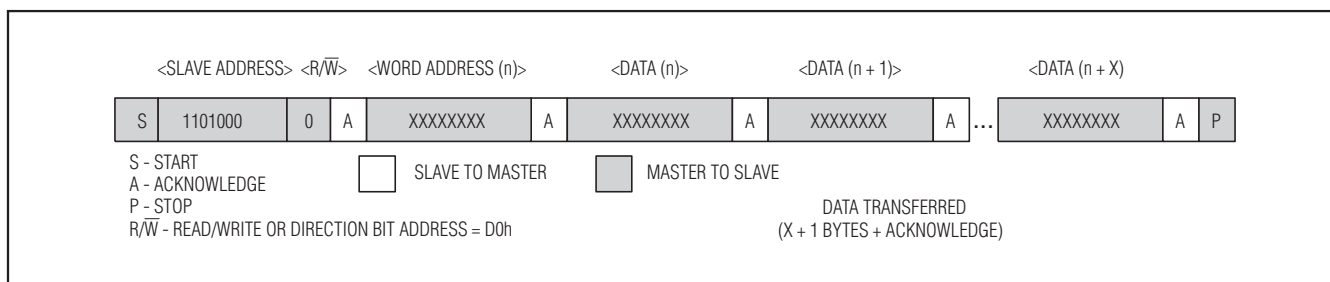

Figure 3. Data Write—RTC Slave Receiver Mode
**1) Slave receiver mode (DS32B35/DS32C35 write mode):** Serial data and clock are received through SDA and SCL. After each byte is received an acknowledge bit is transmitted. START and STOP conditions are recognized as the beginning and end of a serial transfer. Address recognition is performed by hardware after reception of the slave address and direction bit (see Figures 3, 5, and 7). The slave address byte is the first byte received after the master generates the START condition. The slave address byte contains one of the 7-bit device addresses. The slave address is 1101000 for the RTC. For the DS32B35 FRAM, the first four bits are 1010, and the next three bits select one of eight blocks of data (see Table 2). For the DS32C35 FRAM, the first seven bits are 1010000. Each slave address is followed by the direction bit ( $R/\bar{W}$ ), which is zero for a write. After receiving and decoding the slave address byte, the device outputs an acknowledge on the SDA line. After the device acknowledges the slave address and write bit, the master transmits a register address to the device. For the DS32C35, the master transmits two bytes for the register address information. This sets the register pointer on the device. After setting the register address, the master then transmits zero or more bytes of data with the device acknowledging each byte received. The master generates a STOP condition to terminate the data write.